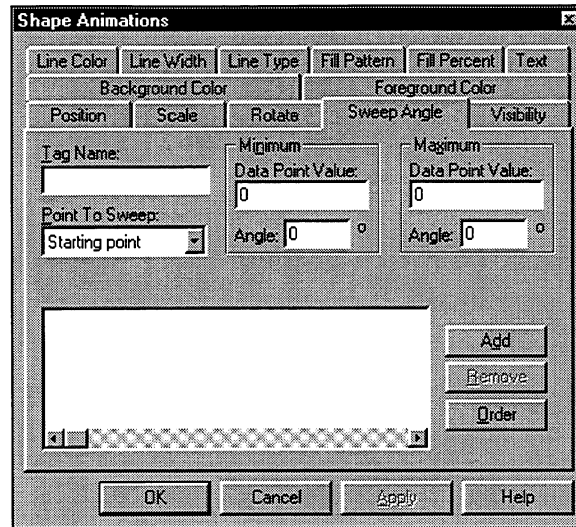

Figure 7-9. Sweep Angle Animation Page
3. Click on the Sweep Angle tab to access the Sweep Angle animation page, as shown in Figure 7-9.